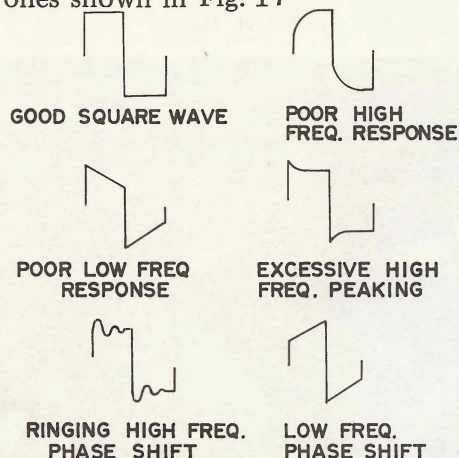

Fig. 17. Distorted square wave resulting from poor frequency response.
3. Compare the resultant waveform with the input and the ones shown in Fig. 17